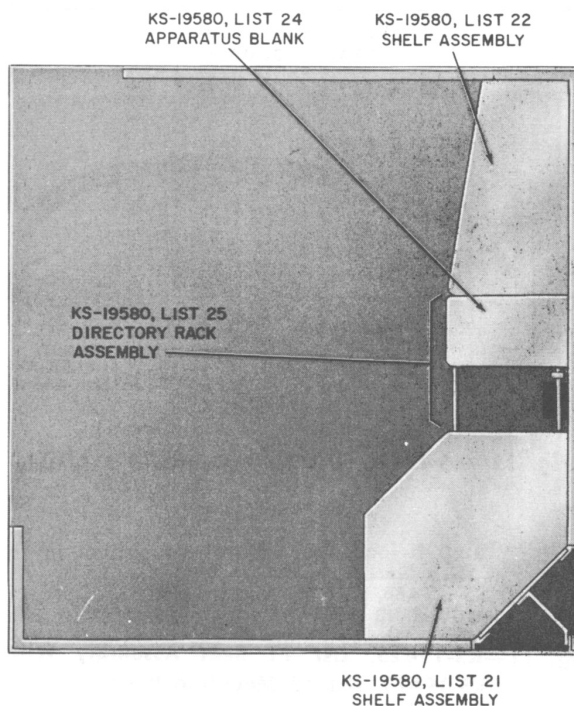

Fig. 8—Rear Wall Shelf Arrangement
2.21 Shelf assemblies, directory racks, and associated apparatus are listed in Table D and shown in Fig. 8 through 10.
KS-19580, List 21 Shelf Assembly (Fig. 8, 9 and 10)
KS-19580, List 22 Shelf Assembly (Fig. 8 and 10)
KS-19580, List 25 Directory Rack (Fig. 8, 9 and 10)
KS-19580, List 24 Apparatus Blank (Fig. 8 and 10)